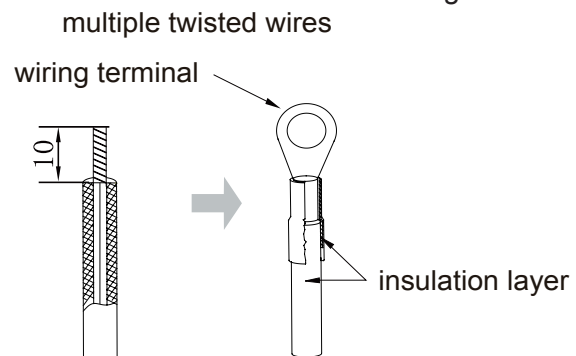

Fig 5.1.2
#### (2) Connection of multi-twisted wire (as shown in Fig 5.1.2)